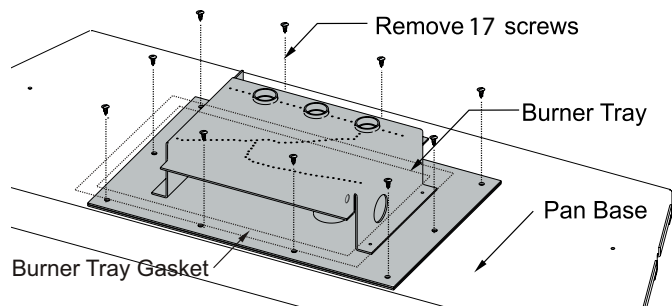
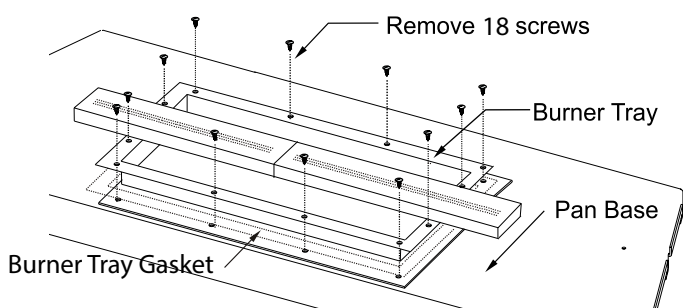

Figure 2 Removing the burner tray (L38DF, L42DF, L52DF models only).
Figure 3 Removing the burner tray (L38DF, L42DF, L52DF models only).
- Reinstall the burner tray (if removed). See **Figure 2** or **Figure 3** for examples